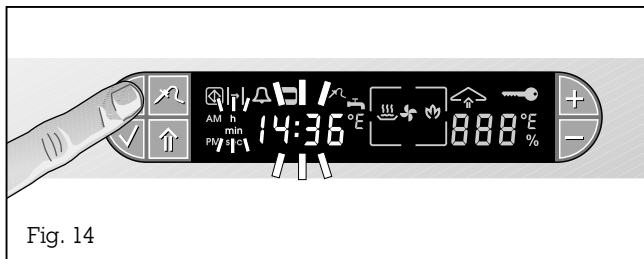

Fig. 14
- Press the ⌚ (Timer) key **3 times**. The ^h (Time unit) symbol flashes on the display. The time display shows the currently set time of day (Fig. 14).